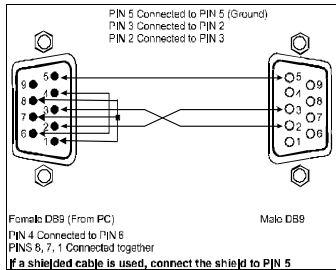

Figure 5: Connecting a PC without using a Null-modem Adapter
- Connect the RS-232 DB9 port on your PC to the RS-232 DB9 rear panel port on the **VS-44HD** unit, as Figure 5 illustrates